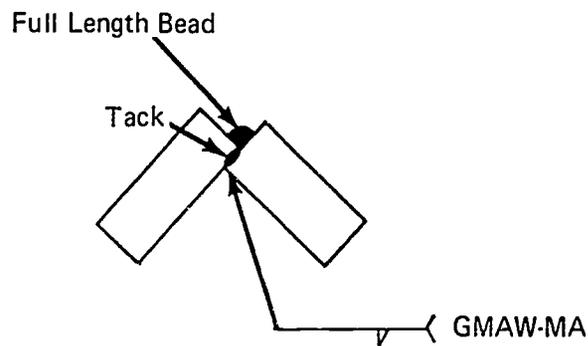

FIGURE 2
- D. Position metal to form a V-joint and tack weld; then run a bead on back side of joint to prevent distortion (Figure 2)